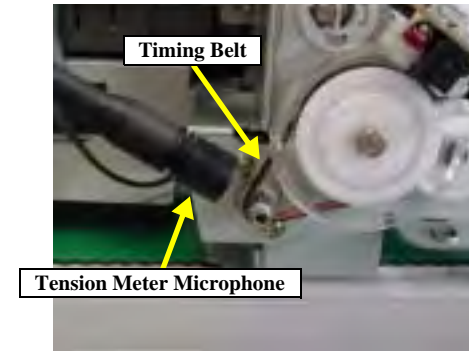

Figure 5-1. PF Belt Tension Adjustment
7. The microphone surface will approach the center of belt tension as near as possible. (See Figure 5-1)
9. Grasp the Timing Belt with the tip of a pair of tweezers and pull the belt downwards to pluck it. (See Figure 5-1, "PF Belt Tension Adjustment") The "----" straight line in the LCD will change as though impacting a wave, a high-pitched beep will notify of the measurement results and an "N" will appear in the LCD. Regardless of the force used to pluck the Timing Belt, the instrument is able to measure by accurately picking up the acoustic tone, and the results are displayed in "N" units (Newton).